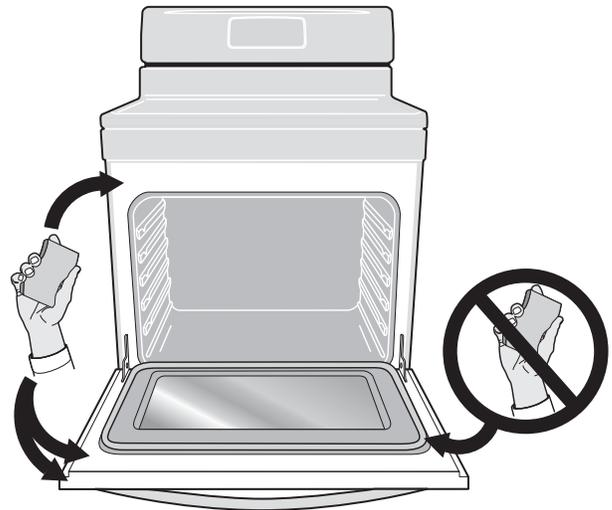

Figure 16: Areas to clean and to avoid
- Do not use oven cleaners or oven protective coatings in or around any part of the oven interior. Clean any soil from the oven frame, the door liner outside the oven door gasket, and the small area at the front center of the oven bottom (See Figure 16). These areas heat sufficiently to burn soil on. Clean using soap and water prior to starting Self Clean.